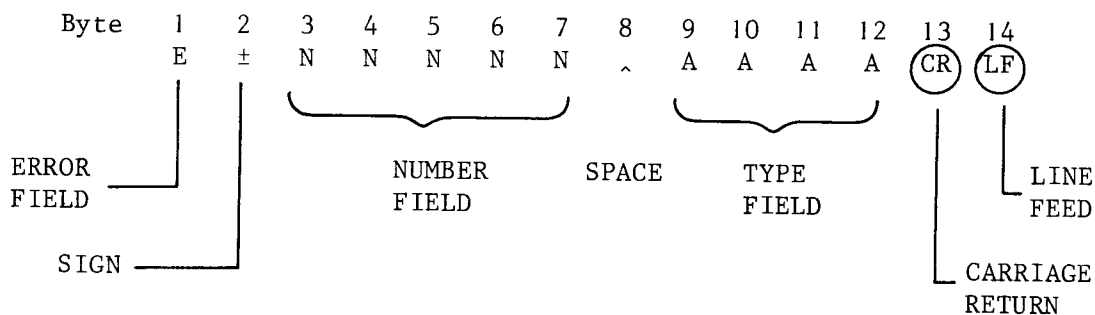

Fig. 6 Output data string
30. The output data to the GPIB is in a 12-byte format followed by a carriage return, (CR), and a line feed, (LF) as in Fig. 6.